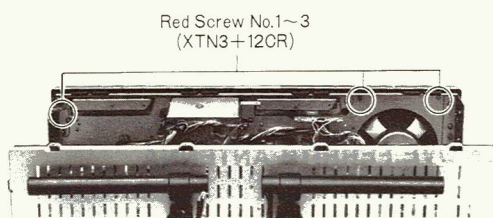

Fig. 16
4. Remove the eleven (11) knobs.
5. Remove the three (3) red screws (nos. 1~3) for the front panel, as shown in fig. 16.